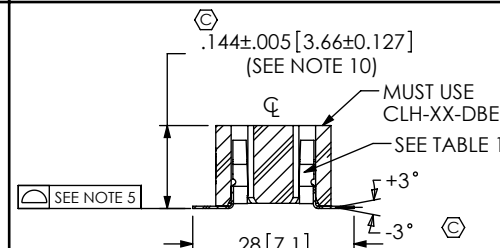

FIG 4
- BE: BOTTOM MOUNT ENTRY (SEE TABLE 1 & FIG 4)